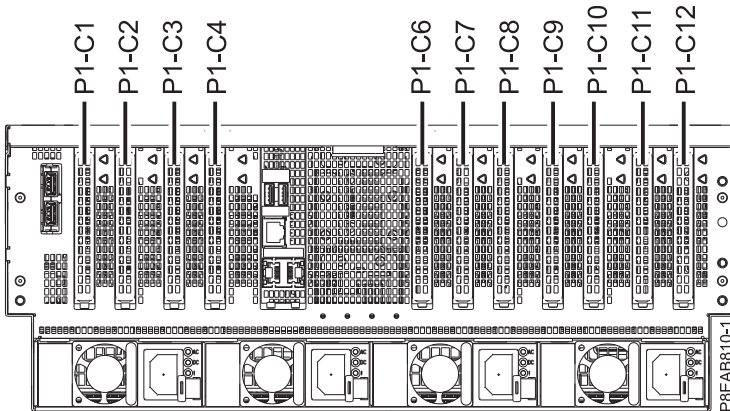

Figure 13. PCIe adapter slot locations in the 8408-44E or 8408-E8E system
1. Familiarize yourself with the locations of the PCIe adapter slots. The PCIe adapters are installed in the rear of the system. Figure 13 shows the locations of the PCIe adapters in an 8408-44E or 8408-E8E system.